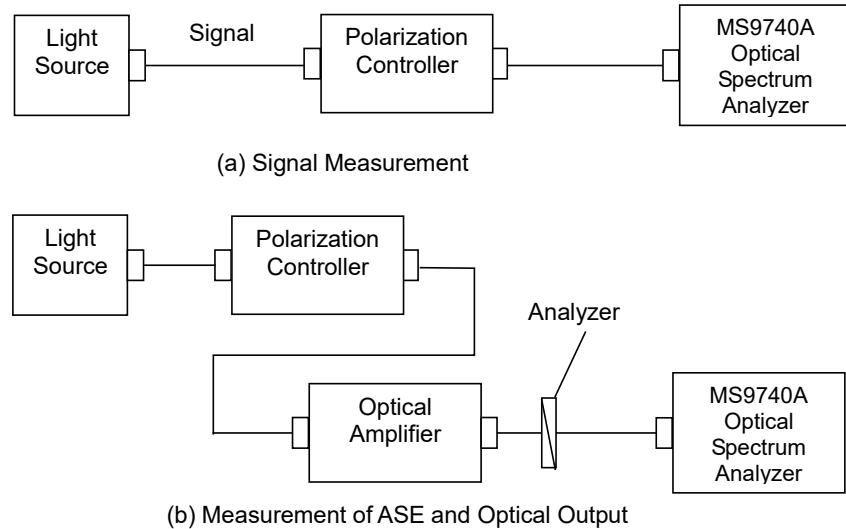

Figure 5.7.4-1 Measurement System for Polarization Nulling Method
8. Input the output light of the optical amplifier to this instrument as shown by the connection in Figure 5.7.4-1 (a).
17. Input the output light of the optical amplifier to this instrument as shown by the connection in Figure 5.7.4-1 (b).